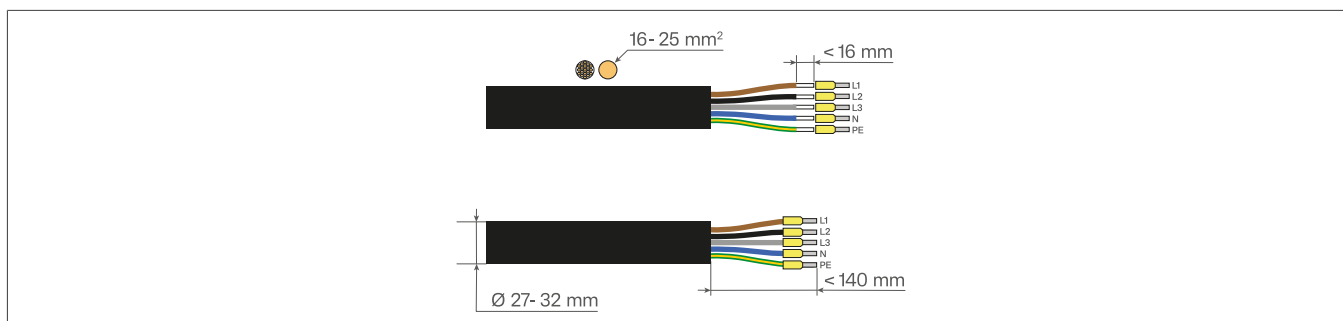

Fig. 26: Cable to the building distribution box
- 1 Strip the sheath and cores of the cable, flexible or rigid (see Fig. 26).